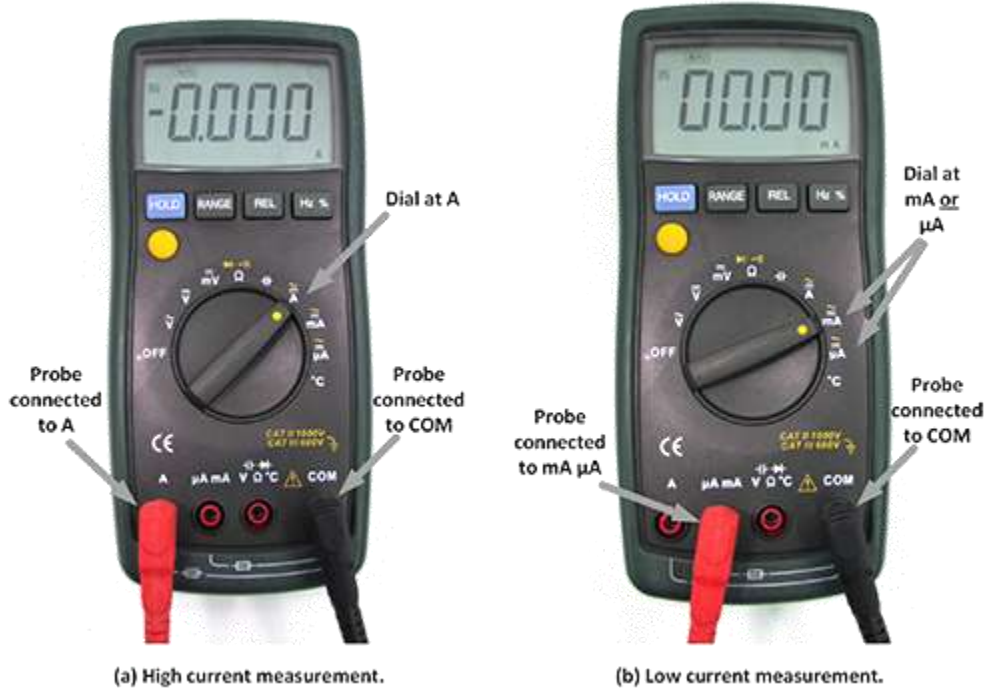

Figure 1. DMM configuration for current measurement.
1. When measuring *large* currents, plug one of the DMM leads into the port with the **A** designation. The other DMM lead is plugged into the **COM** port. In this case, the DMM dial should be turned to the **A** setting. This configuration is shown in Fig. 1(a).
2. When measuring small currents, plug one of the DMM leads into the port with the **μ A mA** designation. The other DMM lead is plugged into the **COM** port. In this case, the DMM dial should be turned to either the **mA** setting (if the current is in the milliamp, or thousandths of an amp range) *OR* the **μ A** setting (if the current is in the microamp, or millionths of an amp range). This configuration is shown in Fig. 1(b).